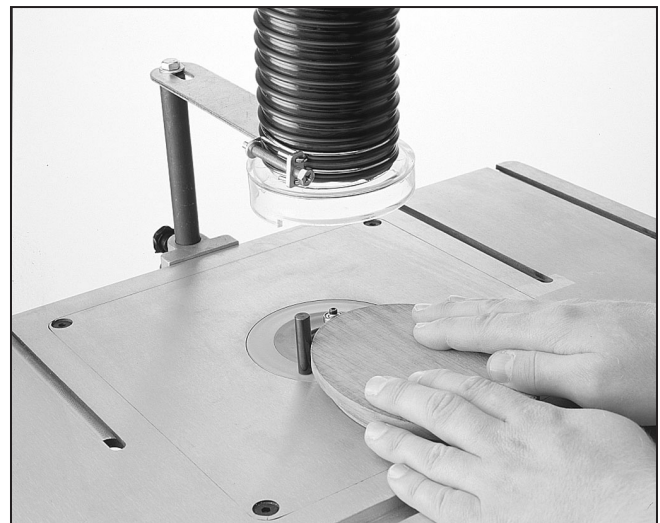

Figure 25. Using the starting pin. Note: safety guard has been raised to demonstrate pin positioning.
Step 2 - Place the starting pin in the router insert or clamp a starting block to the table surface. **Figures 25 and 26.**